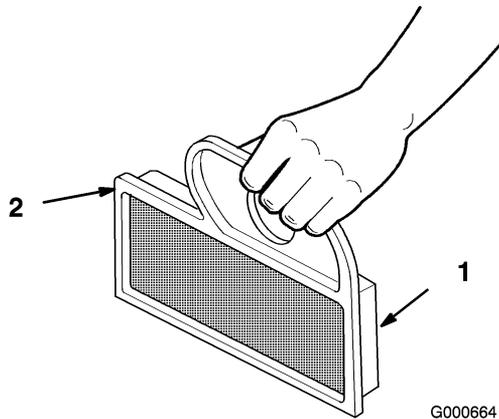

Figure 35
1. Lightly tap the element on a flat surface to remove dust and dirt (Figure 35).